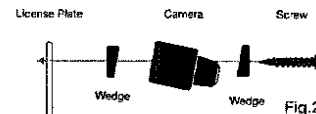

Fig.2
2. Assemble the camera, supplied wedges, and license plate bolts or screws as shown in Fig. 2. The wedges should angle the camera down. Temporarily tighten the license plate bolts or screws.